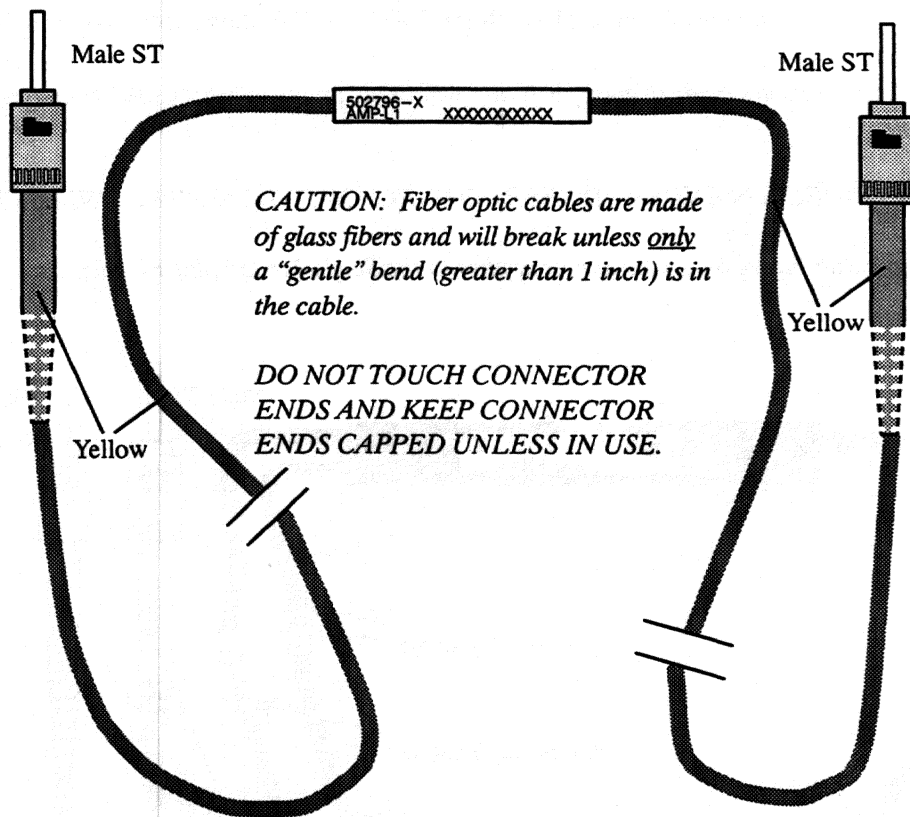

Figure 6-6 Single-Mode Fiber Optic Cables (Yellow), Male ST to Male ST (Yellow).
1. *Single-Mode Fiber Optic Cable.* Figure 6-6 illustrates single-mode fiber optic cables. The cable and its two male ST connectors are all yellow; this cable is AMP's cable labeled *AMP-L1, 502796-X*, where *X* indicates the metric length of the cable. (Referred to as "T" in cable diagrams beginning with Figure 6-21.)
See CAUTION notices with Figure 6-6 as the danger applies to the Single-Mode Splitter Cable, also.